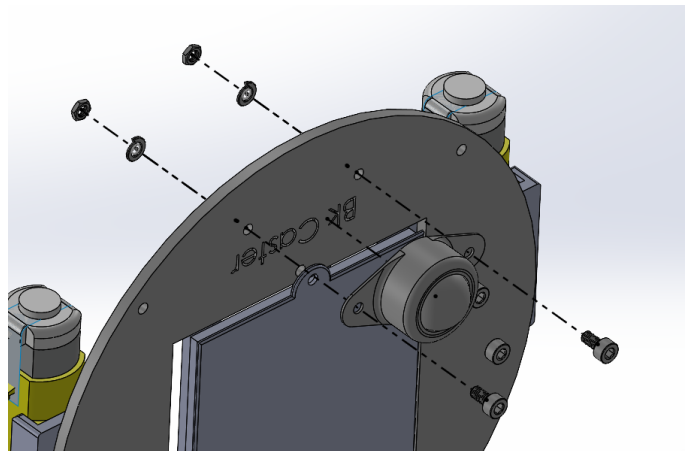

Figure 8: Attach the caster wheel to the bottom robot chassis using 2 screws, 2 nuts, and 2 lock washers
7. Mount the front caster wheel (labeled on bottom of base) by taking the wheel and placing its flat side against the bottom of the base. Take each screw and push it through the wheel and base. Take your lock washer (one for each screw) and place it on the screw. Finally, thread the nut onto the screw, using a Phillips head screwdriver and appropriate wrench to firmly secure the wheel in place. Repeat with back caster wheel. Figure 8 shows the steps to attach the two cater wheels to the bottom robot chassis.